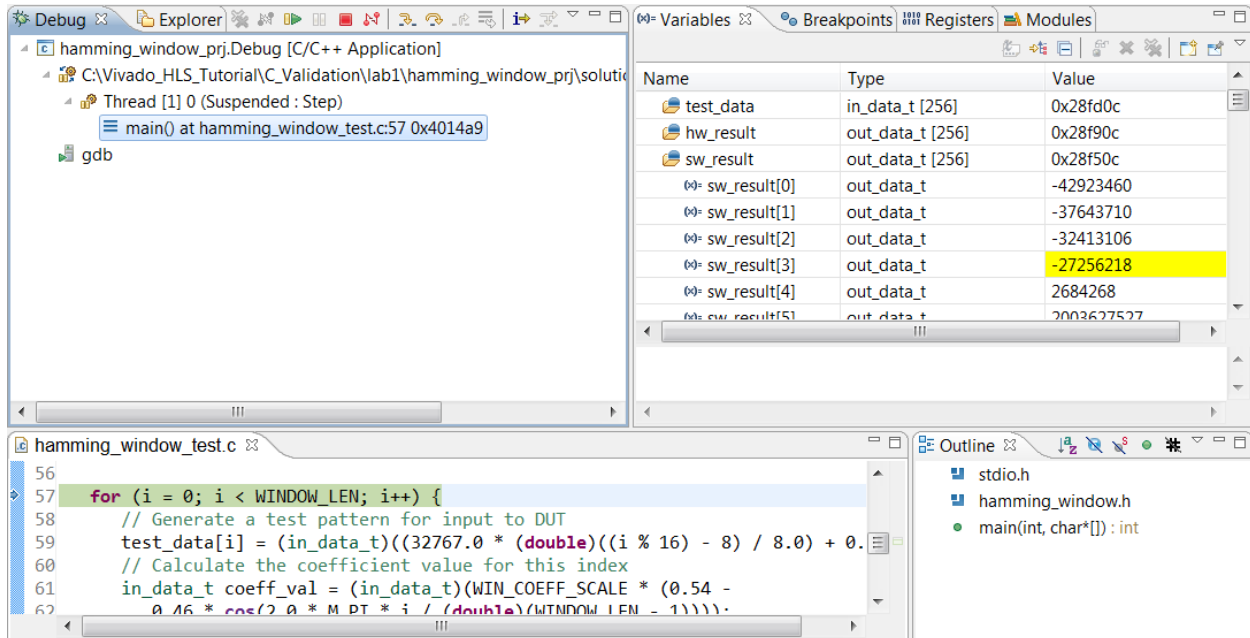

Figure 41: Analysis of C Variables
5. Expand the `sw_results` array to the view shown in Figure 41.